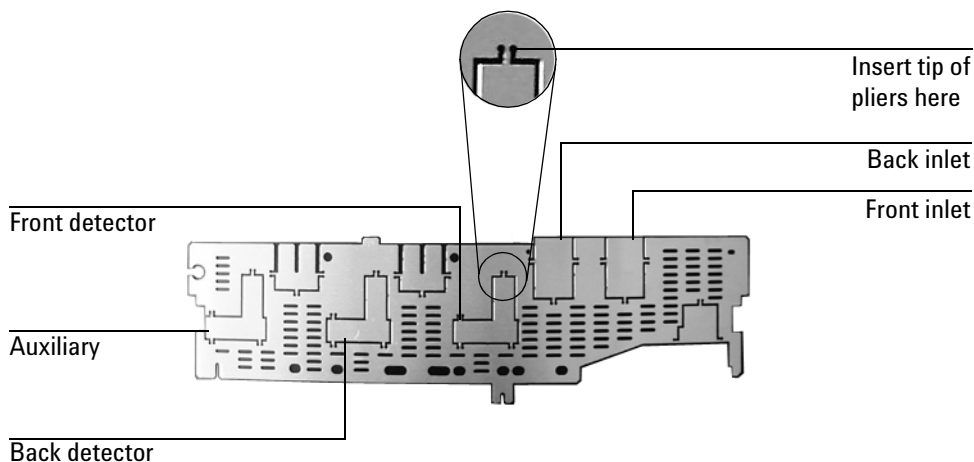

Figure 4. Top rear panel cutouts
If your top rear panel is different from the one in Figure 4, discard it and use the one from the accessory kit.
- Using a pair of needle-nosed pliers, remove the appropriate top rear panel detector cutout for the FID. Also remove any cutouts needed to access other manifolds or accessories installed in the GC. See Figure 4.